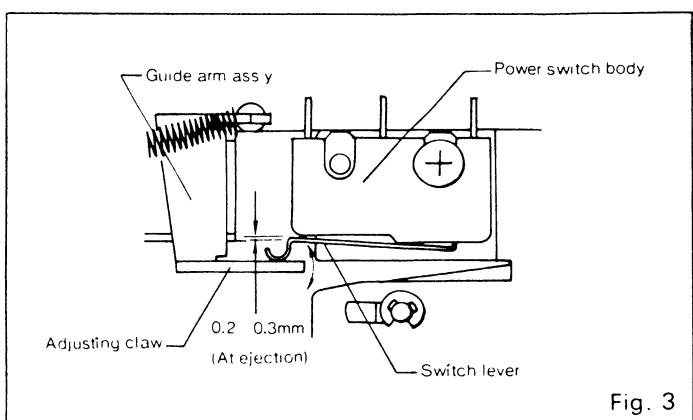

Fig. 3
- If the mechanism does not operate properly and abnormal sound (gear noise) is produced at the time of fast forward and rewind, first of all check whether the sound is produced during fast forward (FF) or rewinding (REW). If it is produced during FF, adjust by bending the claw (A) to the left or right with radio pliers, etc., and if it is produced during REW, adjust by bending the claw (B) in the same manner. Adjust so that the clearance at this time between the flywheel and FF. REW gear becomes about 0.1 to 0.2mm.
3. Adjustment of Power Switch (See Fig. 3)